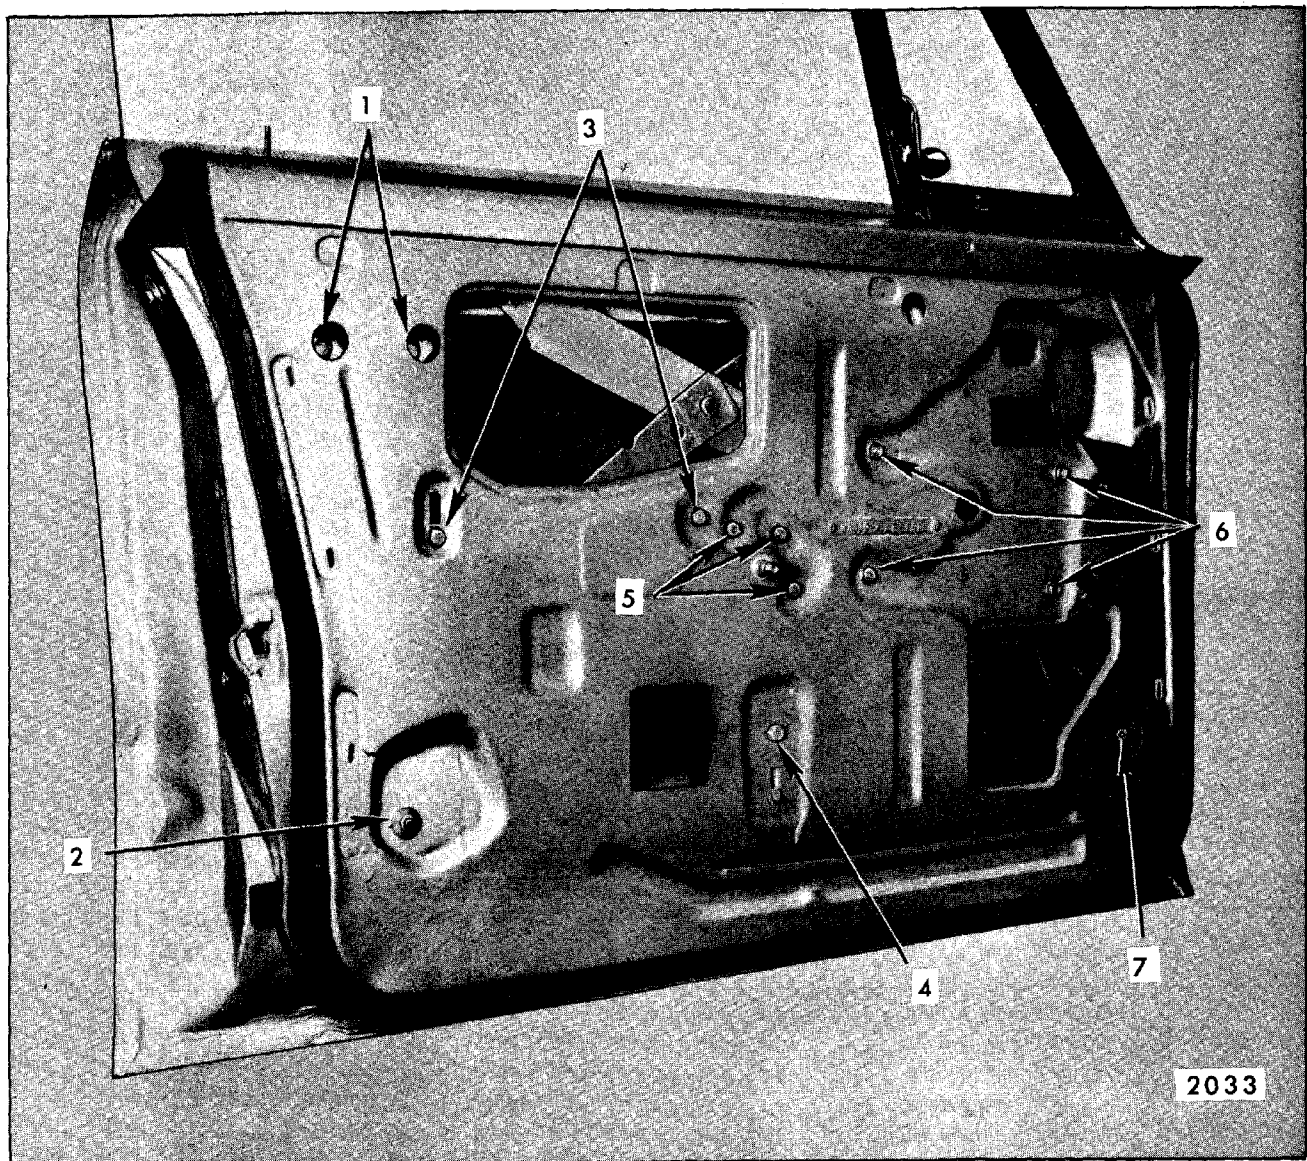

Fig. 7-87—Front Door Hardware - "A-39" Style
3. Raise door window. Remove sash channel guide plate, front up-stop and inner panel cam (see Fig. 7-87).